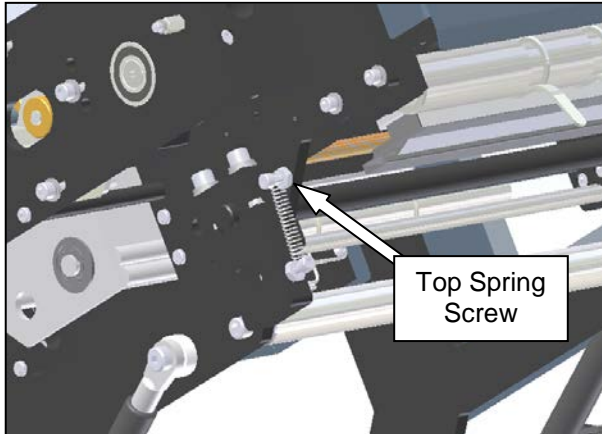

Figure 3-275. Cradle Latch Spring
- Remove the top screw holding the spring into position. Unlock the hex nut, and remove screw from the cradle plate (Figure 3-275).